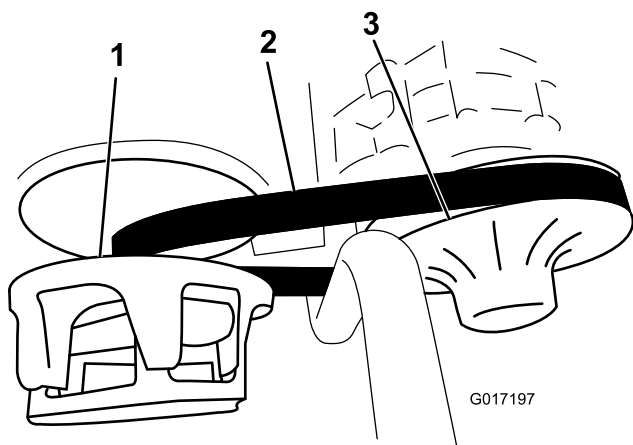

Figure 55
3. Rotate and inspect the belt (Figure 55) for excessive wear or damage.
3. Rotate and route the belt over the secondary clutch (Figure 55).
4. Remove the belt from the primary clutch (Figure 55).
5. Align the new belt over the primary clutch (Figure 55).
6. Rotate and route the belt over the secondary clutch (Figure 55).